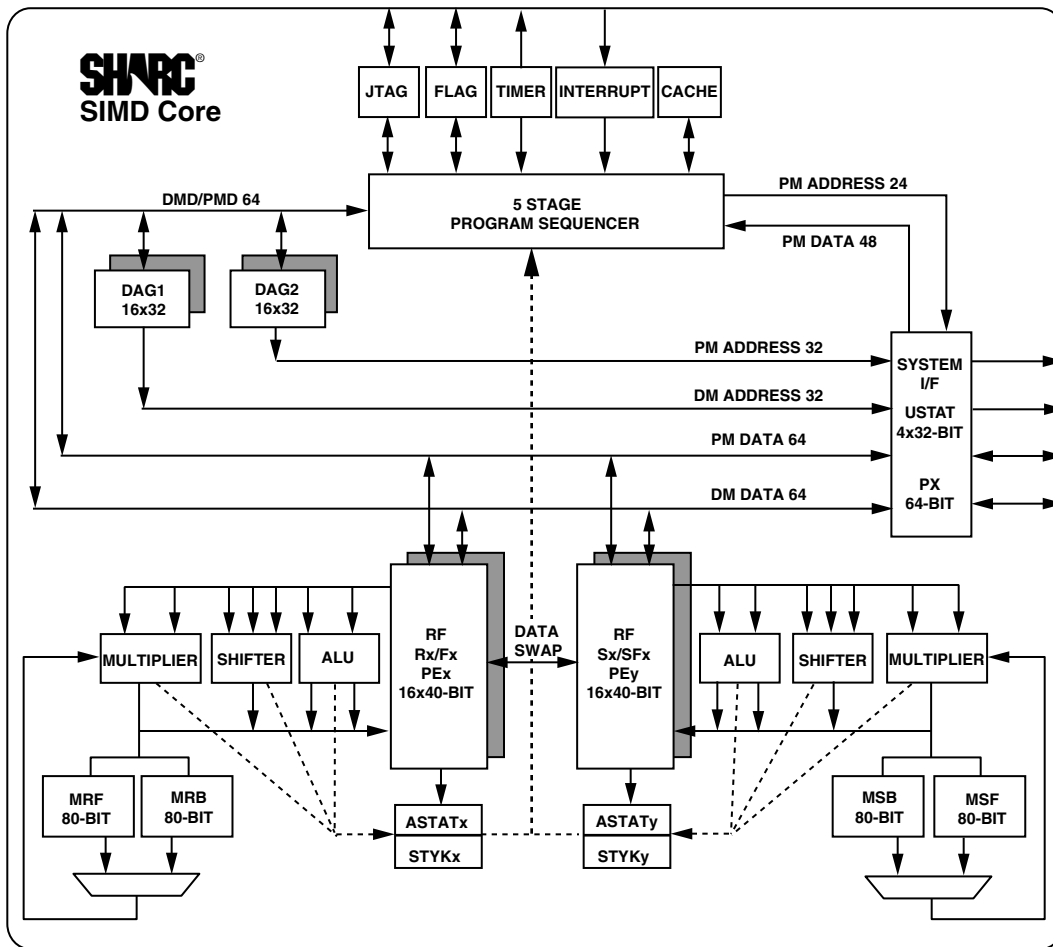

Figure 2. SHARC Core Block Diagram
The ADSP-2146x is code compatible at the assembly level with the ADSP-2137x, ADSP-2136x, ADSP-2126x, ADSP-21160, and ADSP-21161, and with the first generation ADSP-2106x SHARC processors. The ADSP-2146x shares architectural features with the ADSP-2126x, ADSP-2136x, ADSP-2137x, and ADSP-2116x SIMD SHARC processors, as shown in Figure 2 and detailed in the following sections.
The ADSP-2146x features an enhanced Harvard architecture in which the data memory (DM) bus transfers data and the program memory (PM) bus transfers both instructions and data (see Figure 2). With its separate program and data memory buses and on-chip instruction cache, the processor can simultaneously fetch four operands (two over each data bus) and one instruction (from the cache), all in a single cycle.